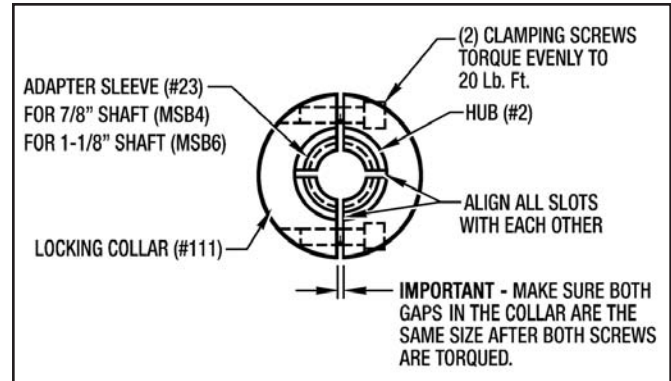

Figure 3.4 - Aligning Quill Clamping Slots (MSB4 & MSB6)
(See Figures 3.4 and 3.5)
1. If you have an Adapter Sleeve (#23), make sure all the clamping slots are aligned with each other as shown in Figure 3.4.
If you don't have the Adapter Sleeve (#23), two of the slots in the Hub (#2) must be aligned with the (2) slots in the Clamping Collar (#111) as shown in Figure 3.4.